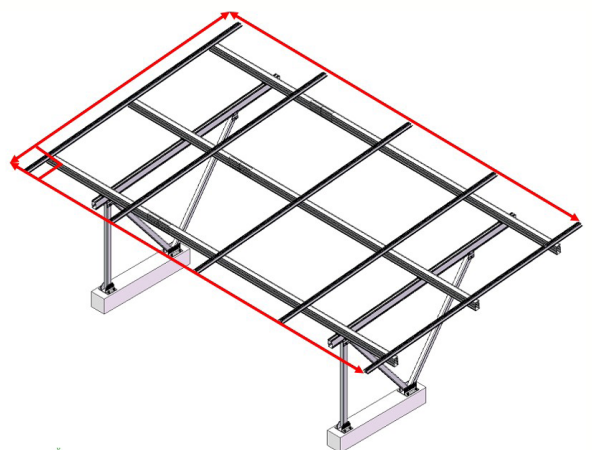

Figure 17
5.3.2 According to engineering drawings, repeat the above operations to install other Rail 60 with Water Channels as shown in Figure 17.